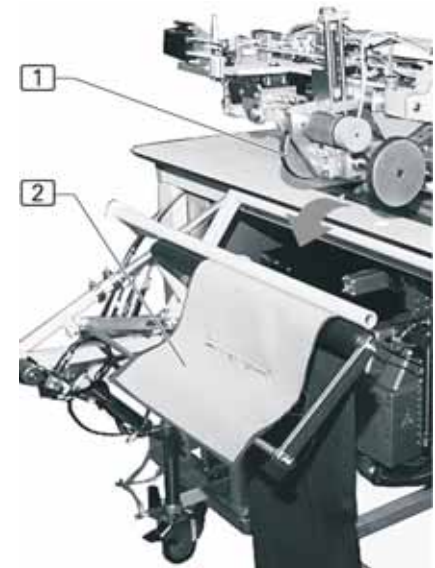

fig. 6
**fig. 6:** Roller **1** has the function of transporting the workpiece from the work surface to the stacker. Stacker **2** bundles the processed workpieces so that they fit perfectly on top of each other.